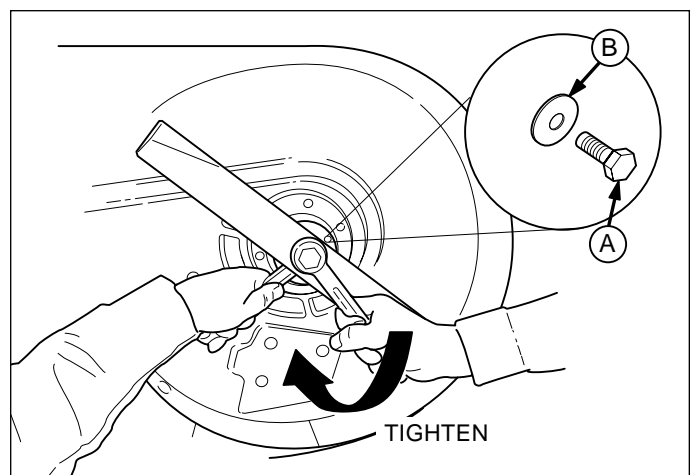

Figure 18. Installing The Blade
5. Reinstall each blade with the tabs pointing up toward deck as shown in Figure 18. Secure with a bolt and flat washer and torque bolts to 70-90 ft.lbs. (94-120 N.m.).